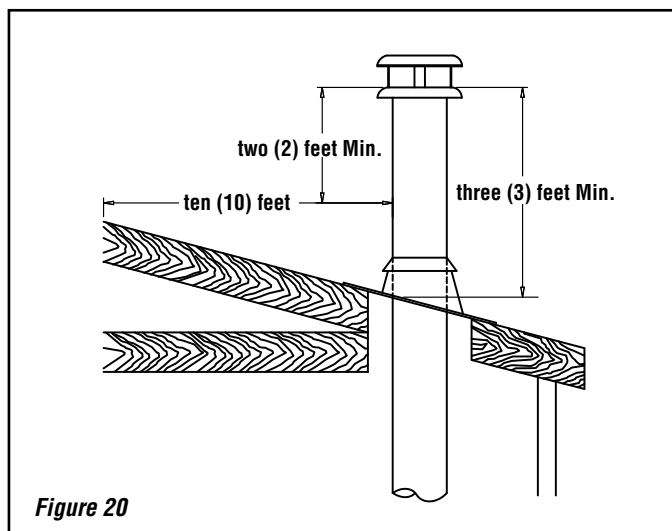

Figure 20
5. All chimney installations must include at least one support in order to be able to take any lateral load. The maximum chimney length that can be supported by the fireplace is nine (9) feet (2.75 m) for Secure Temp S2100+* / Nova Temp HT6000+* / Secure Temp GX* and 26 feet (8m) for ACBI chimney. In altitude, add 18" (450 mm) to the chimney for every 2,000 feet (600 m) above sea level.
6. The chimney must extend at least three (3) feet (915 mm) above its point of contact with the roof and at least two (2) feet (610 mm) higher than any wall, roof or building within ten (10) feet (3 m) of it (**Figure 20**).
7. If the chimney extends higher than five (5) feet (1,500 mm) above its point of contact with the roof, it must be secured using a roof brace.